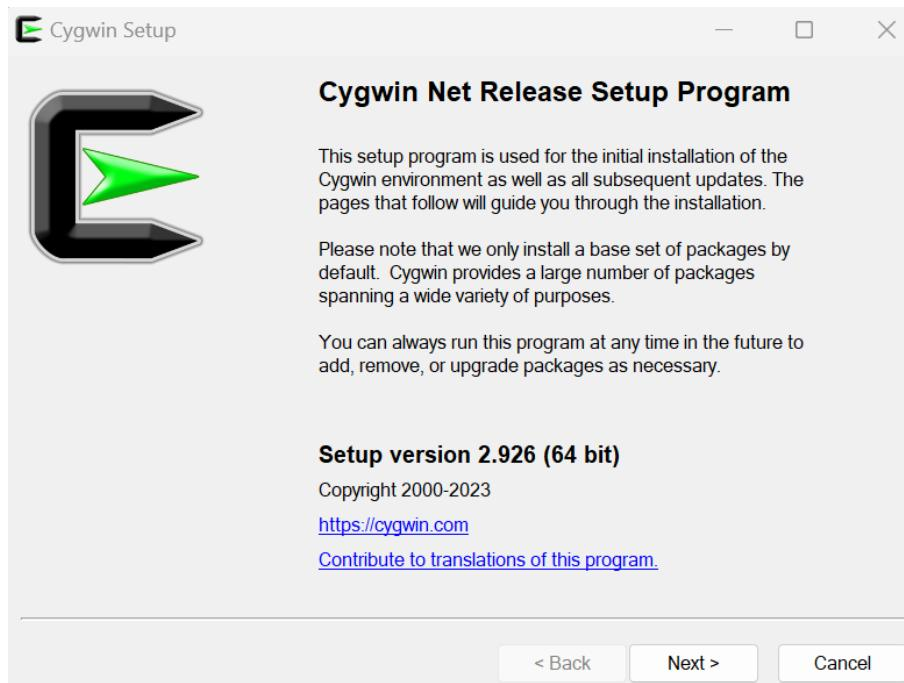

Figure 84. Cygwin installation window
2. Execute the setup file in your machine by double-clicking on it (Figure 84).